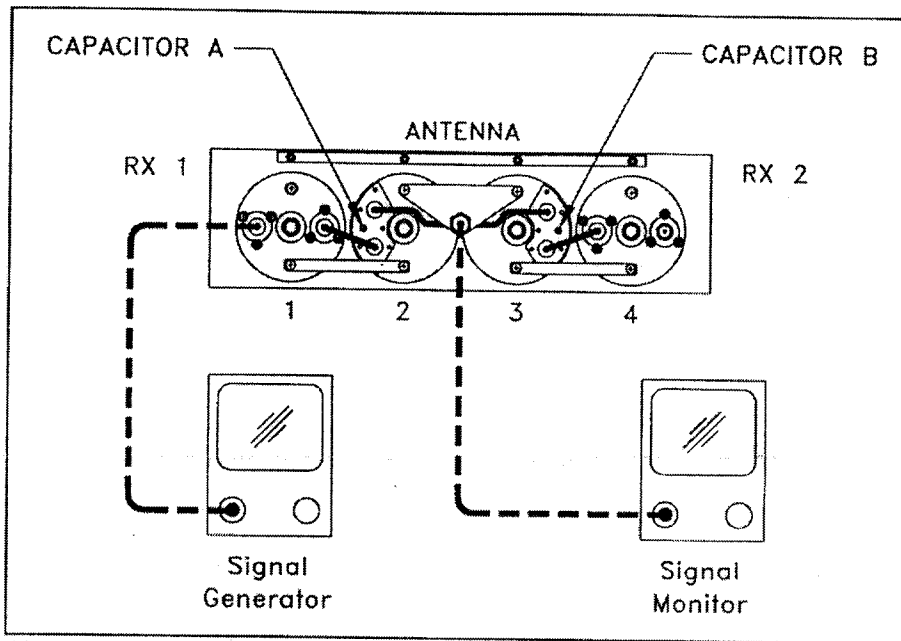

Figure 1
- (1) Connect the equipment as shown in Figure 1. Set the analyzer center frequency to the lower of the two receive frequencies and adjust the analyzer sweep setting as to include full response curve (see Figure A).
- (2) Loosen the hex nut which locks the threaded tuning rod on the cavities and rotate the threaded tuning rod of cavities 1 & 2 for maximum signal (minimum loss) into the analyzer at the pass frequency.
- (3) Remove the slotted dust cap from capacitor A (cavity #2) and tune the capacitor to obtain rejection notches symmetrical about the center frequency as illustrated by Figure A.
- (10) Reconnect the equipment as shown in Figure 1.
- (11) Set the analyzer center frequency to the lower of the two receiver frequencies.
- (12) Rotate the threaded tuning rod of Cavities 1 & 2 for maximum signal (minimum loss) at center frequency into the analyzer. (Tune both cavities several times because of interaction between cavities)
- (13) Tighten the hex nuts which lock the tuning rods of Cavities 1 & 2.
- (16) Reconnect the equipment as shown in Figure 1 and terminate the "RX2" port with a 50 ohm load.
- (17) Change the vertical scale of the analyzer system to 10 dB per division and set the center frequency of the analyzer to the reject frequency.
- (18) Tune capacitors A (on cavity 2) to obtain maximum rejection (notch) at the 929-932 MHz band. Take appropriate steps to increase the sensitivity/dynamic range of your analyzer system to accurately tune the rejection notch.